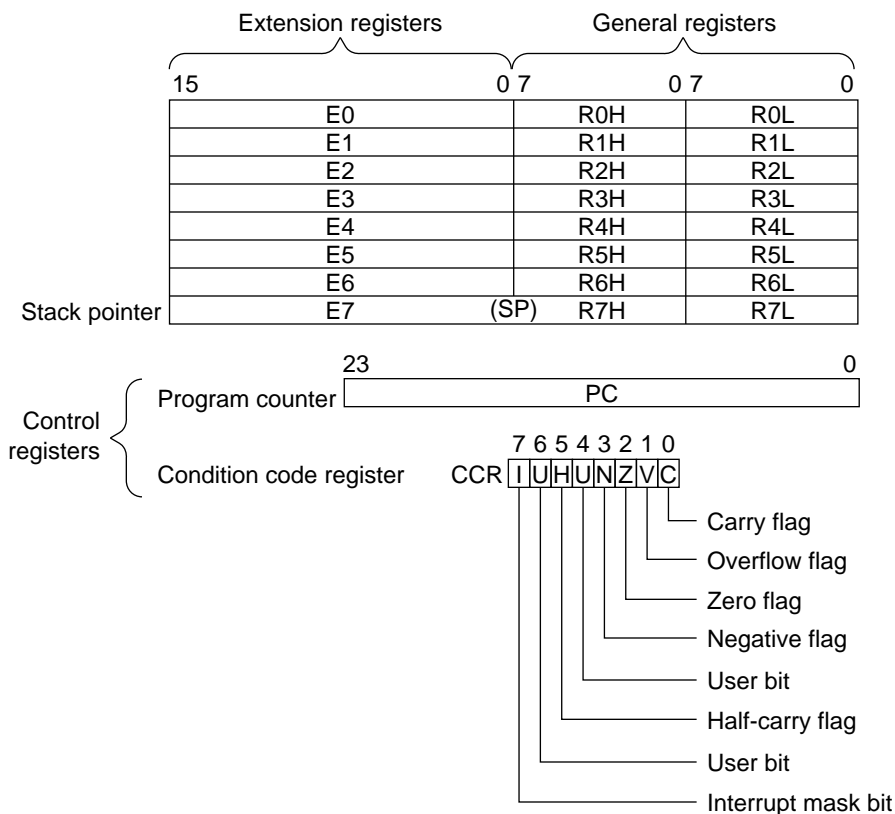

Figure 1.1 Composition of Registers
Figure 1.1 shows the register configuration for the H8/300H. The H8/300H CPU is composed of sixteen 8-bit general register (R0H/R0L–R7H/R7L), eight 16-bit extended registers (E0–E7), one 24-bit program counter (PC) and one 8-bit condition code register (CCR), which are used as control registers.